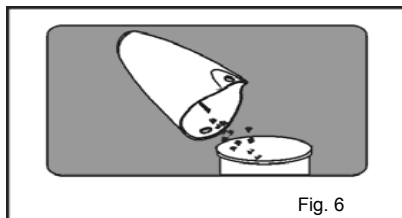

Fig. 6
2. Empty the dust from the dust cup container. (Fig. 6)